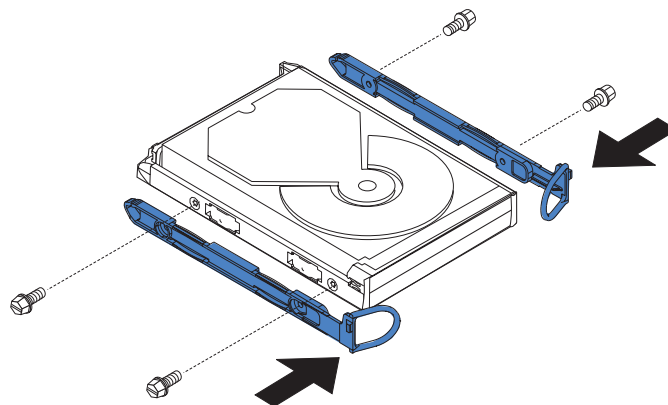

Figure 95. Attaching the rails to the disk drive
9. If you are exchanging the disk drive for another, refer to Figure 95.